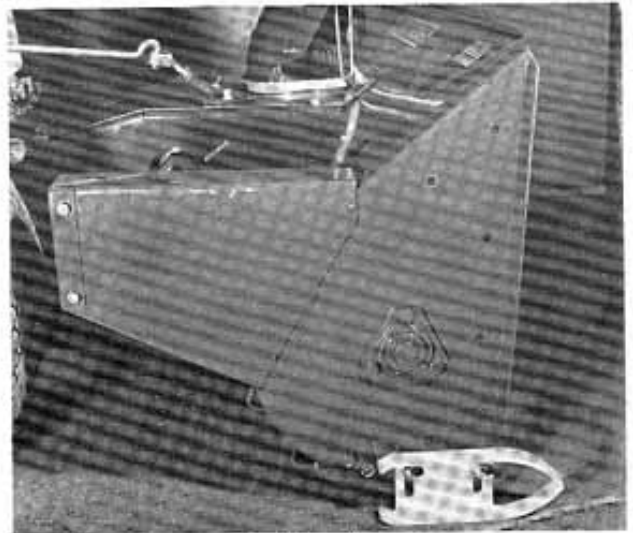

Figure 4
2. Mount the skid shoes to the bottom outside of rotor housing as shown in Figure 4 using the four 3/8-16 x 1 carriage bolts, flat washers, lock washers, and lock nuts provided. The mounting holes are slotted so the unit can be raised or lowered, depending on the smoothness of the surface to be cleared.